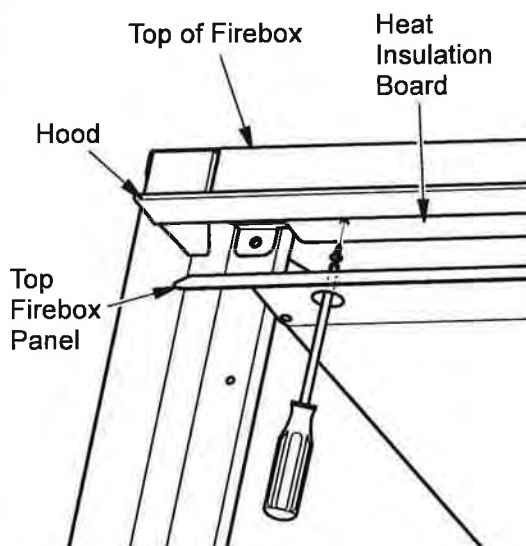

Figure 11 - Hood Installation
1. Align 3 holes in upper side of hood with holes in heat insulation board (see Figure 11).
2. Insert screwdriver through hole in top firebox panel to secure hood to heat insulation board with 3 screws (see Figure 11).